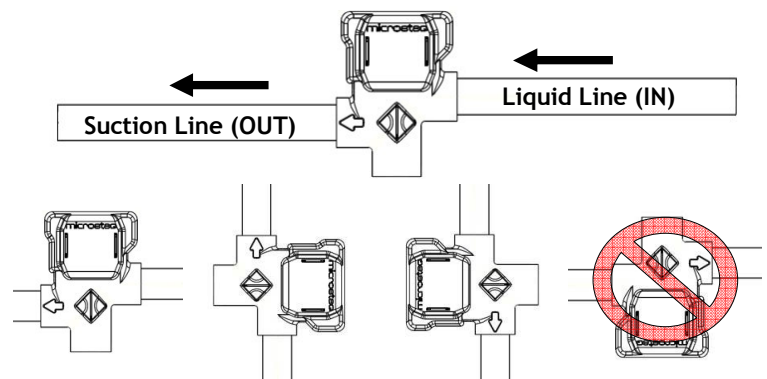

Figure 1: SEV Installation Orientation
3. Position the SEV to ensure proper orientation and flow direction (See Figure 1). The SEV allows flow in ONE DIRECTION ONLY, so it is critical the valve is installed in the correct direction. The SEV can be installed horizontally or vertically, but should not be installed with the pilot (top) facing downward or at a downward angle.